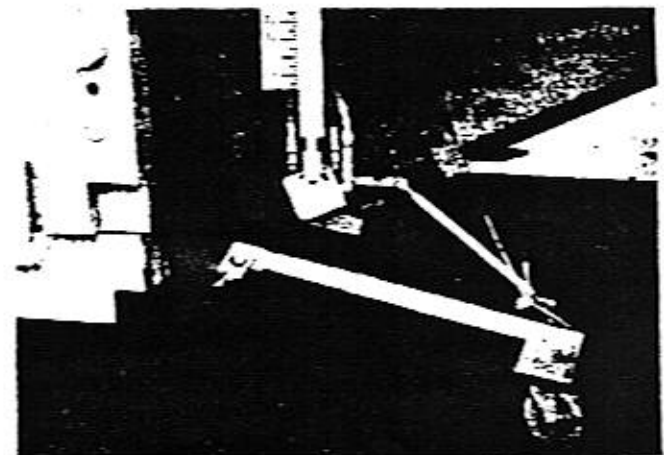

Figure 5-17
2. The right hand sensor can be connected to the wheeled dolly assembly or the right ski. The right ski can be removed when the sensor is attached to the wheeled dolly (This gives more clearance when cutting next to curbs). See Figure 5-17 and 5-18.